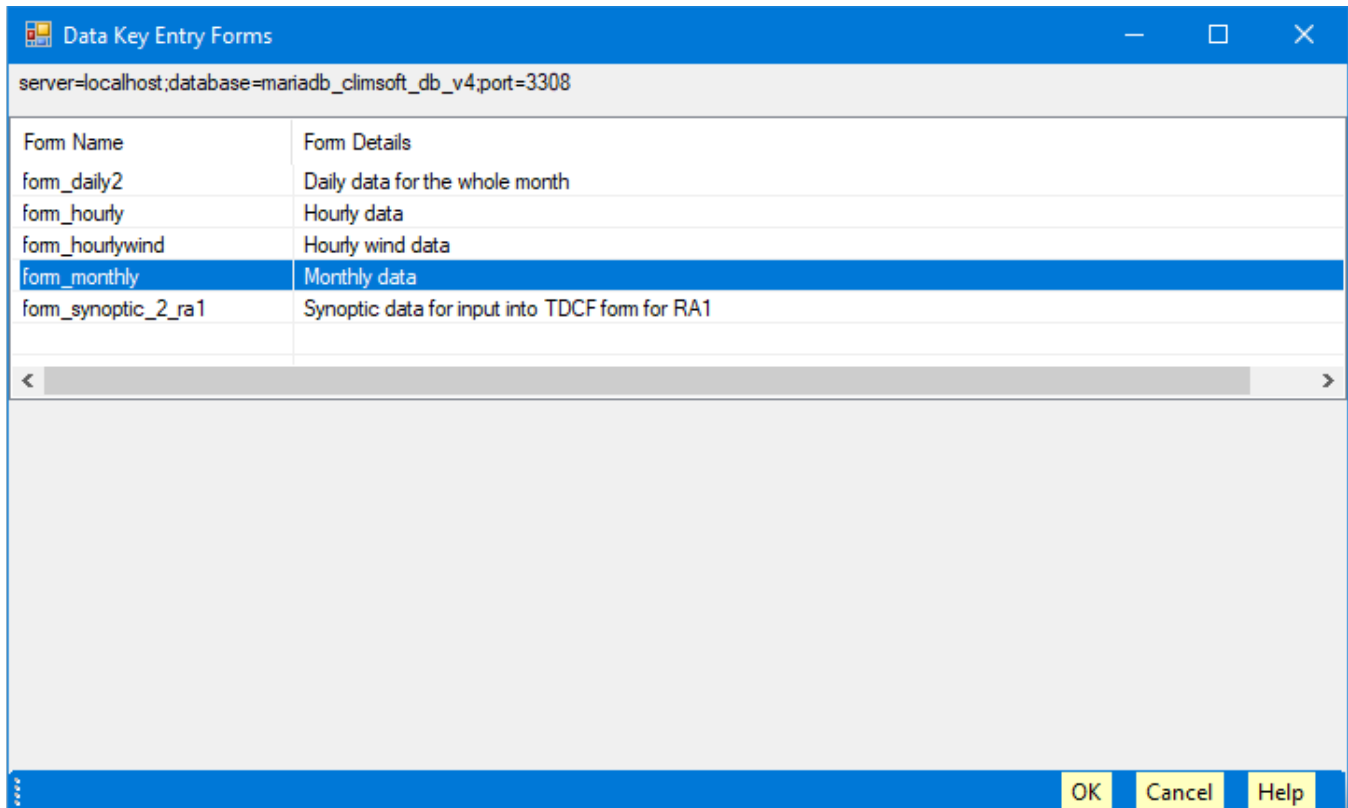

Figure 25: Key Entry forms opening
- From the Welcome form click on the icon **Data Entry** to obtain the dialog shown in Figure 25;